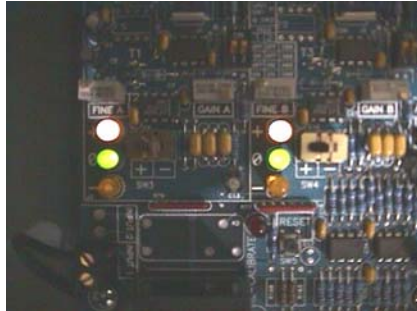

Fig 4.2 YELLOW and GREEN LED's are on. GREEN LED's should turn off within 1/4 turn.
2. While at the top floor with full weight in the car, adjust the GAIN pot for Channel A until **either** of the YELLOW LED's comes on and the GREEN LED **just shuts off**. Then, back off **slowly** until the GREEN LED **just turns back on**. Turning the pot clockwise will increase the setting, counterclockwise decreases. (Fig 4.2)